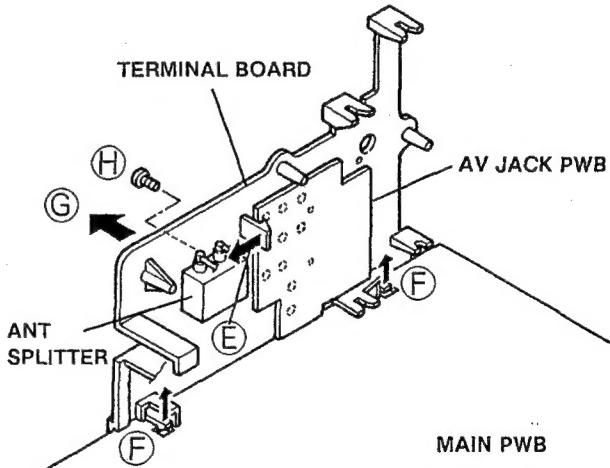
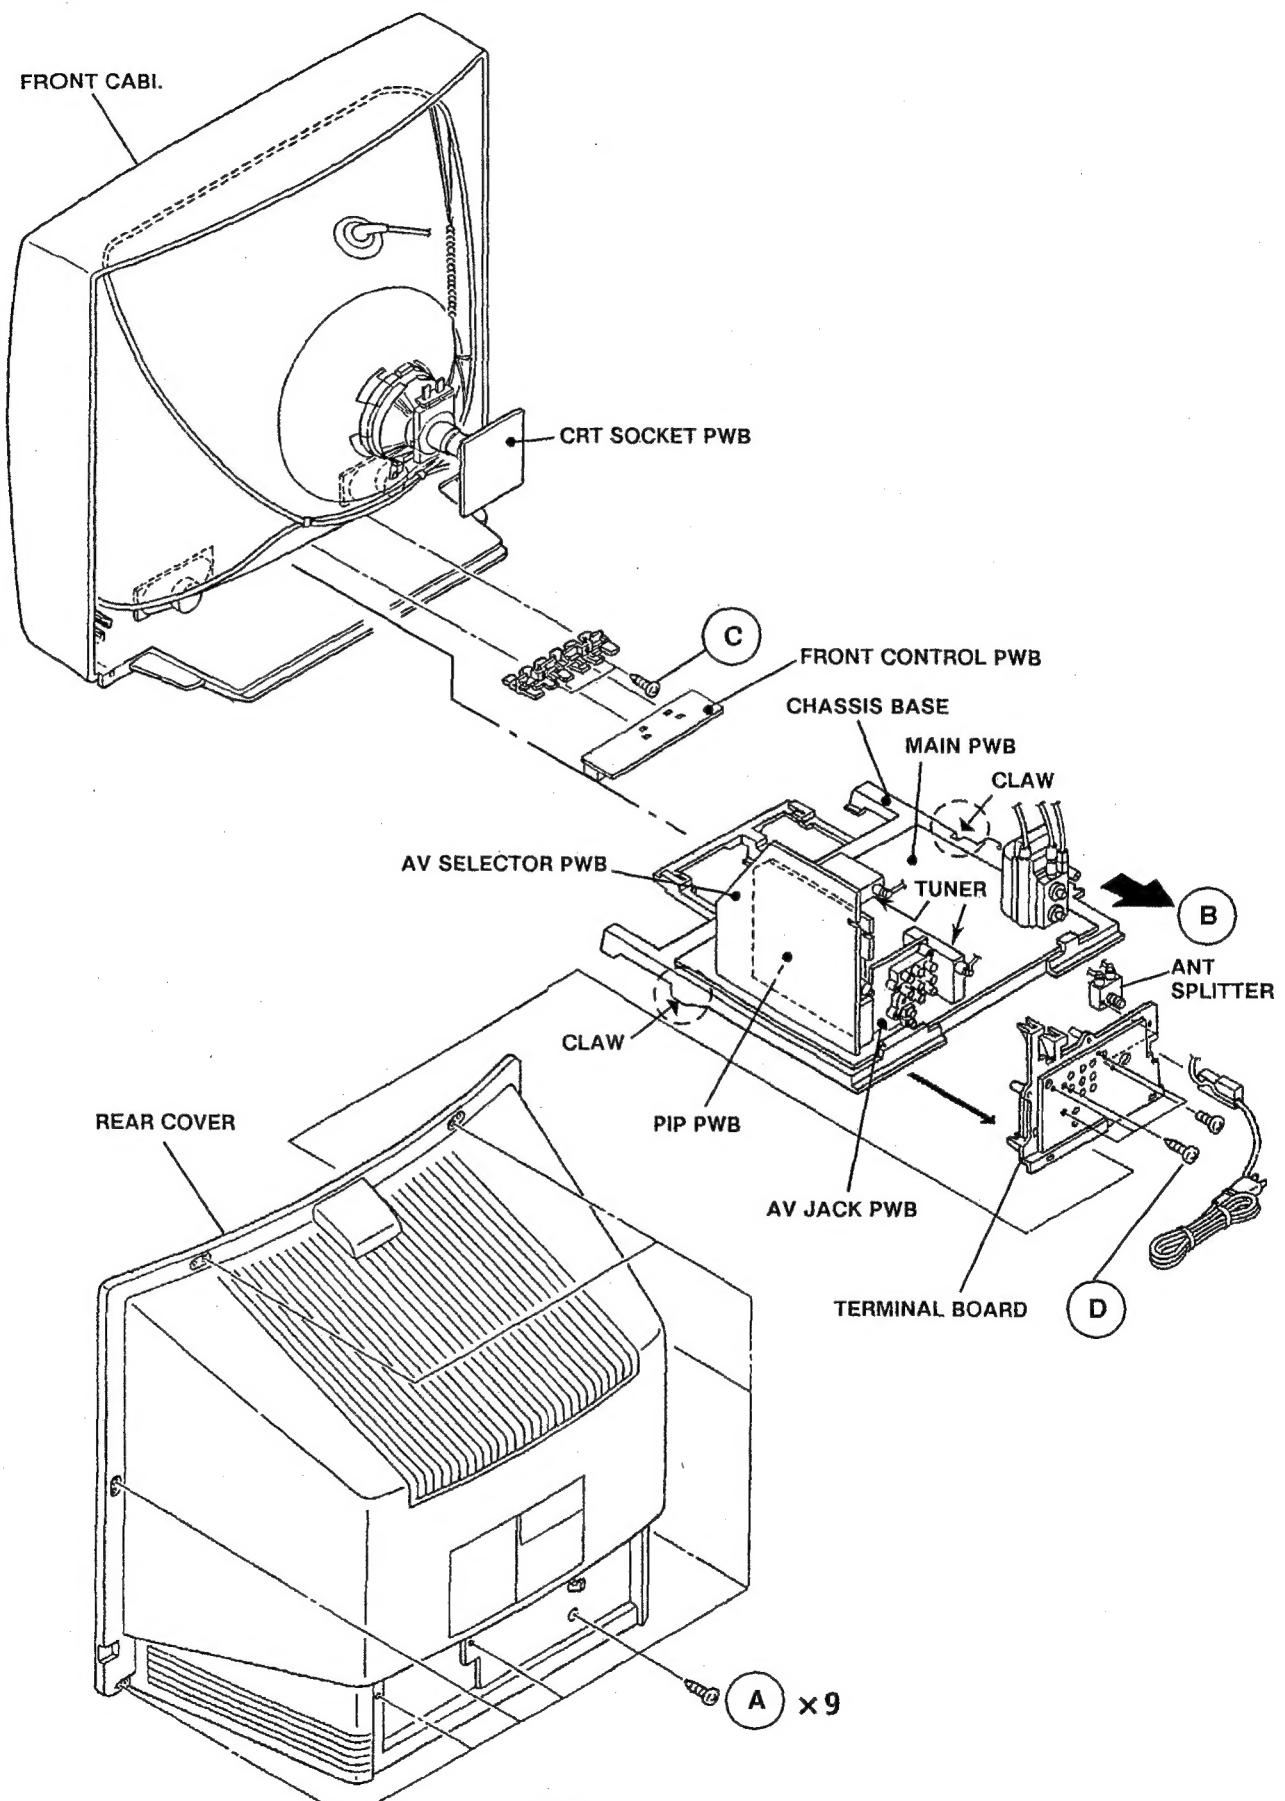

Fig.1
Fig. 2
2. Remove the nine screws marked **(A)** as shown in Fig. 2.
- 2. Draw the chassis backward along the rail in the arrow direction marked **(B)** as shown in the Fig. 2.
- 1. Remove the 2 screws marked **(C)** as shown in Fig. 2.
- 1. Remove the 4 screws marked **(D)** as shown in Fig. 2.
- 2. After removing the claw marked **(E)** from the AV JACK PWB in the direction of arrow mark as shown in Fig.1, remove the 2 claws marked **(F)** in the direction of arrow mark, then take off the TERMINAL BOARD in the direction of arrow marked **(G)**.
1. Remove a screw marked **(H)** as shown Fig.1.
(1) Power off Switch off the power and disconnect the power cord from the outlet.
(2) Replace the memory IC. Initial value must be entered into the new IC.
(3) Power on Connect the power cord to the outlet and switch on the power.
(4) System constant check and setting 1) Simultaneously press the DISPLAY key and VIDEO STATUS key of the remote control unit. 2) The SERVICE MENU screen of Fig. 1 is displayed. 3) While the SERVICE MENU is displayed, again simultaneously press the DISPLAY and VIDEO STATUS keys to display the Fig. 2 SYSTEM CONSTANT screen. 4) Refer to the SYSTEM CONSTANT table and check the setting items. Where these differ, select the setting item with the MENU UP / DOWN key and adjust the setting with the MENU LEFT / RIGHT keys.(The letters of the selected item are displayed in yellow.) 5) After adjusting, release the MENU LEFT / RIGHT key to store the setting value. 6) Press the EXIT key twice to return the normal screen.	<p>Fig. 1</p>
(5) Receive channel setting Refer to the OPERATING INSTRUCTIONS(USER'S GUIDE) and set the receive channels (Channels Preset) as described.	<p>Fig. 2</p>
(6) User settings Check the user setting items According to Table 2. Where these do not agree, refer to the OPERATING INSTRUCTIONS(USER'S GUIDE) and set the items as described.
(7) SERVICE MENU setting Verify what to set in the SERVICE MENU, and set whatever is necessary. (Fig. 1) refer to the SERVICE ADJUSTMENT for setting.